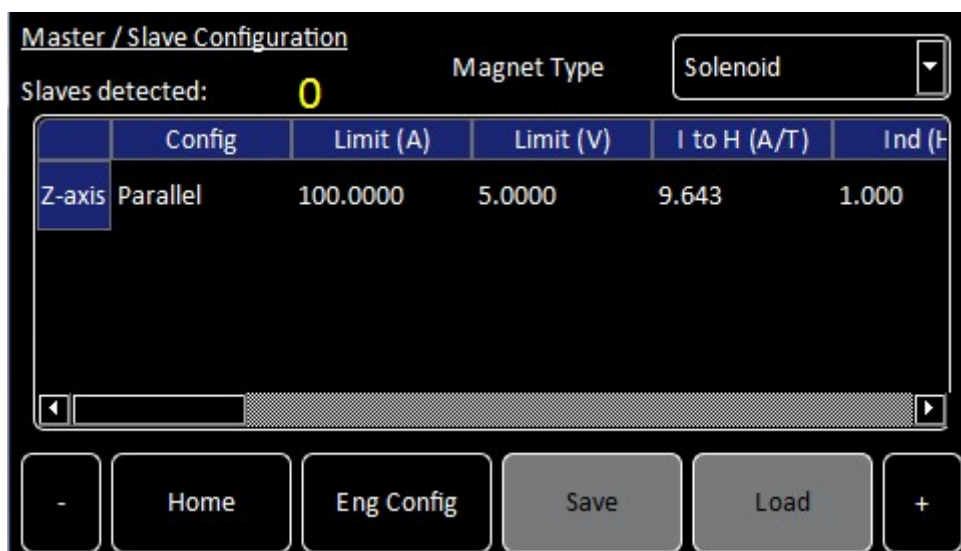

Figure 9. Magnet configuration screen of the Mercury iPS
its position on the RS485 modbus. So for example, an iPS 240-10 is will consist of 1 x iPS-M plus 3 x iPS-S units. The slaves detected should equal 3, the units will be labelled PSU.M1, PSU.M2, PSU.M3 and PSU.M4. The slaves detected parameter (Figure 9) is updated every time the iPS system is booted.
The “Magnet Type” drop down box allows the choice of three magnet types “Solenoid”, “Split Pair” and “Vector Rotate” (Figure 9). At the time of writing there is no operational difference between Solenoid and Split Pair, these are just single axis current supply systems. A “Vector Rotate” magnet however, is a set of 2 or 3 coil split-pairs arrange orthogonally to form a Z-axis and an X-axis (2 coil pairs), or a Z-axis, X-axis and a Y-axis (3 coil pairs). Putting the Mercury iPS into “Vector Rotate” mode will add Y-axis and X-axis rows to the “Config” table, will add Y-axis and X-axis groups to the “Eng Config” pages and will add X-axis and Y-axis control panels to the iPS Home screen.
4.4 The Configuration Table (Figure 9)